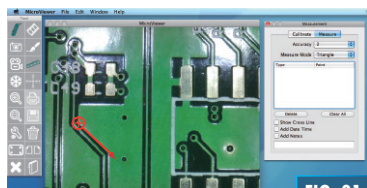

FIG. 81
4. Drag to the second point and release. (Fig. 81).